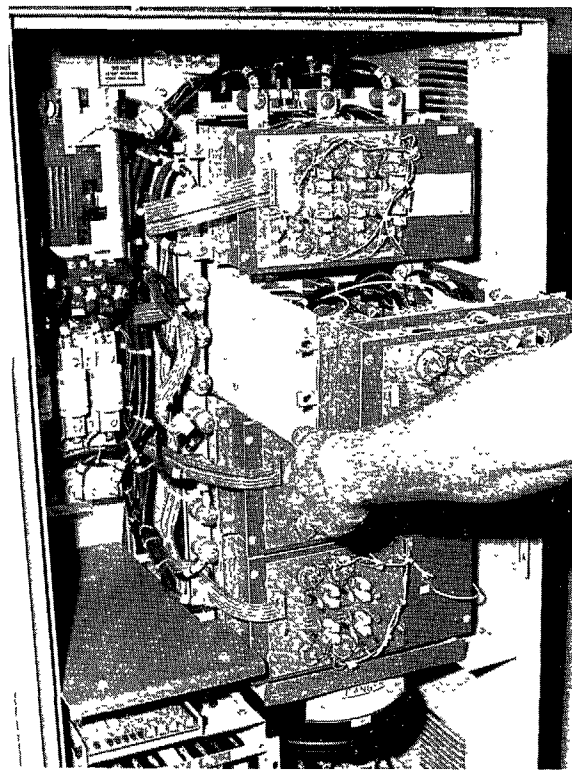

FIGURE 11
6. Carefully pull the module(s) out of the rack using the red plastic insulation cover in front of the module (See Fig. 11).